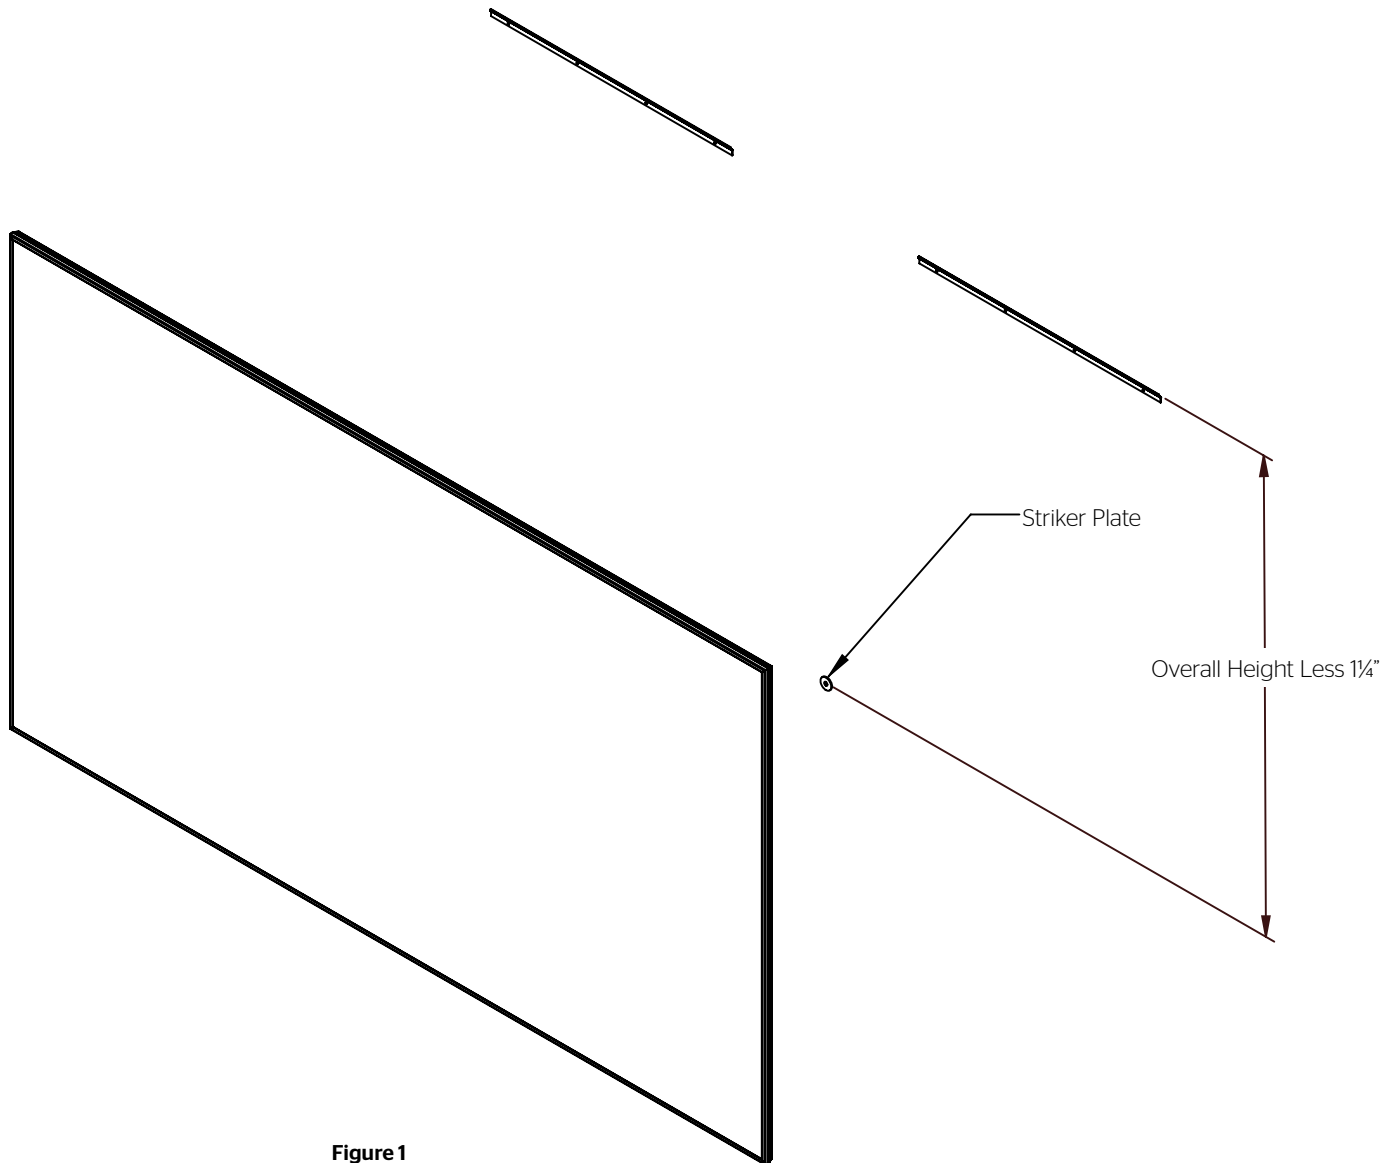

Figure 1
NOTE: The screen is shipped with two wall brackets. Screens in widths of 88¾" and below receive (2) 28" wall brackets. Screens above 88¾" in width receive (2) 44" wall brackets. Use appropriate mounting hardware for the wall type and to accommodate for the screen's hanging weight (Figure 1).
1. Secure the two wall brackets to wall studs at the desired height. The outside edge of each wall bracket must be no greater than 5" away from the left and right edges of the frame. You will need at least 2" clearance above the drilled holes to hang the screen (Figure 1).
2. To install the striker plate, take your screens overall height (including frame) and subtract 1¼". Using that dimension, measure down from the top edge of the wall brackets and mark the wall for a screw hole (Figure 1).